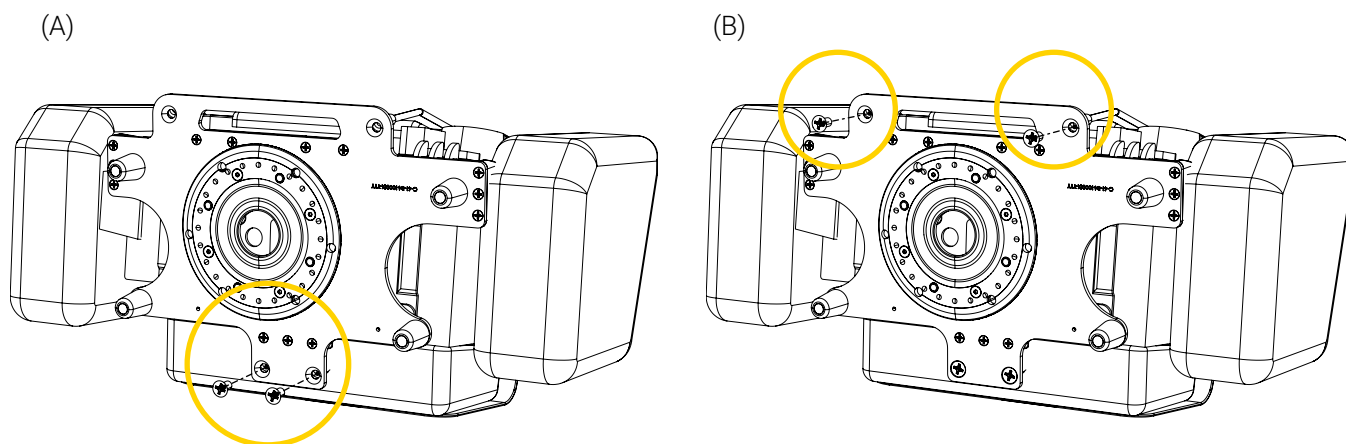

Figure 7: Securing the retaining frame (bottom view)
8. Holding the retaining frame over the LIFEPAK 15, flip the monitor/defibrillator on its back to access and align the screw holes of the bottom plate and retaining frame (Figure 7).
9. Tighten the two (2) rear flat head screws first (Figure 7 A), then the two (2) front flat head screws (Figure 7 B), using a Philips screwdriver #3. Torque by hand.